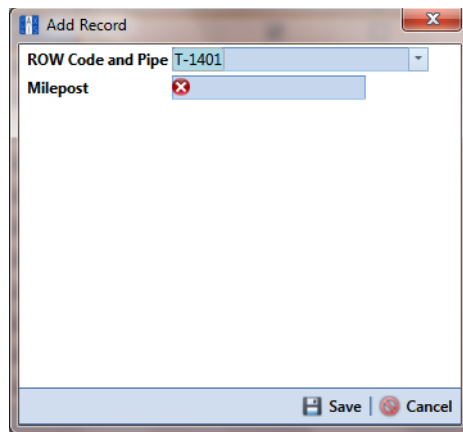

Figure 7-10. Add Record
- c Click  **Save** to display required field(s) for data entry. Required fields are identified with the  icon, such as *Milepost* (Figure 7-10).